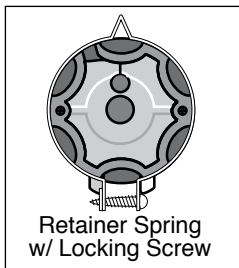
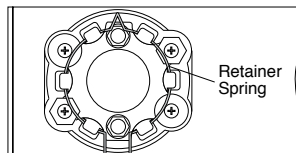

Fig. 3
Fig. 4
C) Unroll the shade 12-18 inches (this will facilitate installation of GP hembar and optional guide wheels or optional guide cables later on). Insert the collapsible (spring loaded) idle end pin of the fabric tube into the hole in the idle end bracket. While pushing against the collapsible idle end pin, swing the motor end of the tube up towards the drive bracket. **Insert the motor head fully into the center of the drive bracket.** Be sure the yellow cap (limit switch cover) at the end of the motor is accessible. **Reinstall the retainer spring ensuring that the spring engages the grooves in both the motor and the bracket before securing with the screw** as shown (Fig. 3). **Tighten the screw on the retainer spring to secure the motor and tube to the bracket** (Fig. 4).
bracket provided. **Secure the tube to the bracket by inserting the cotter pin through the adjustable heavy duty shaft and “V” bracket. Reinstall the retainer spring ensuring that the spring engages the grooves in both the motor and the bracket before securing with the screw as shown (Fig. 3). Tighten the screw on the retainer spring to secure the motor and tube to the bracket (Fig. 4).**